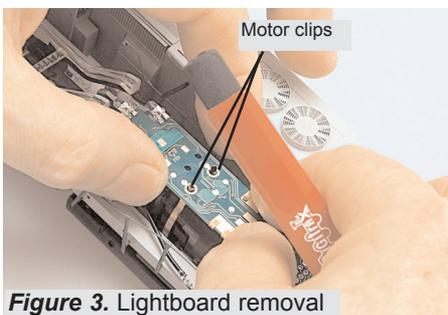

Figure 3. Lightboard removal
4. Remove the lightboard by pulling it gently straight up, off the motor clips. (**Figure 3**)